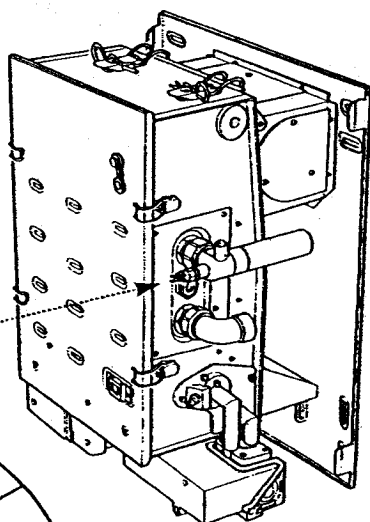

Fig. 75
1. The boiler has two side water connections, the top connection being FLOW and the bottom connection being RETURN (Fig. 75).